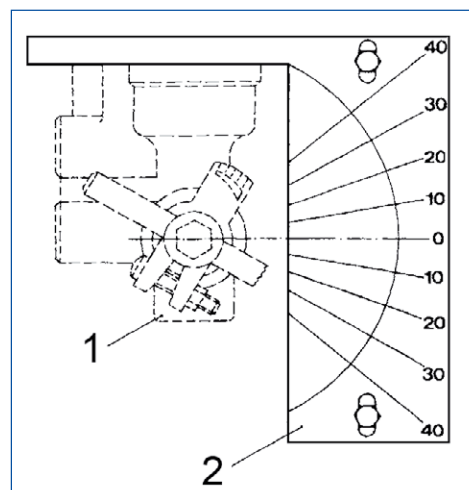

Fig. 9: Device with fastened test template
- Test template (example Fig. 9)